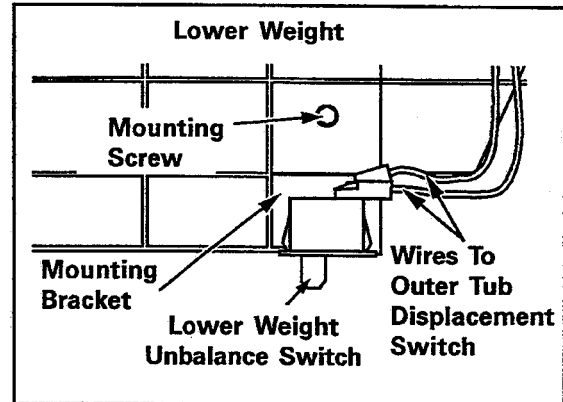

Figure 2-62
2. Place ohmmeter leads across the two terminals of the switch. Depress the button on the switch. If the contacts open, the switch is good. If not, replace the switch (*See Figure 2-62*).